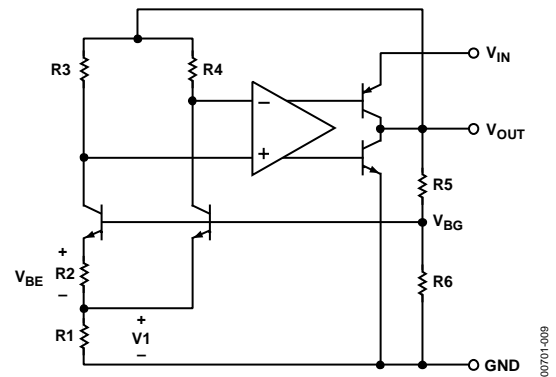

Figure 9. Simplified Schematic
The AD1582/AD1583/AD1584/AD1585 use the band gap concept to produce stable, low temperature coefficient voltage references suitable for high accuracy data acquisition components and systems. These parts of precision references use the underlying temperature characteristics of a silicon transistor's base emitter voltage in the forward-biased operating region. Under this condition, all such transistors have a $-2 \text{ mV}/^\circ\text{C}$ temperature coefficient (TC) and a V_{BE} that, when extrapolated to absolute zero, 0 K (with collector current proportional to absolute temperature), approximates the silicon band gap voltage. By summing a voltage that has an equal and opposite temperature coefficient of $2 \text{ mV}/^\circ\text{C}$ with the V_{BE} of a forward-biased transistor, an almost 0 TC reference can be developed. In the AD1582/AD1583/AD1584/AD1585 simplified circuit diagram shown in Figure 9, such a compensating voltage, V1, is derived by driving two transistors at different current densities and amplifying the resultant V_{BE} difference (ΔV_{BE} , which has a positive TC). The sum of V_{BE} and V1 (V_{BG}) is then buffered and amplified to produce stable reference voltage outputs of 2.5 V, 3 V, 4.096 V, and 5 V.